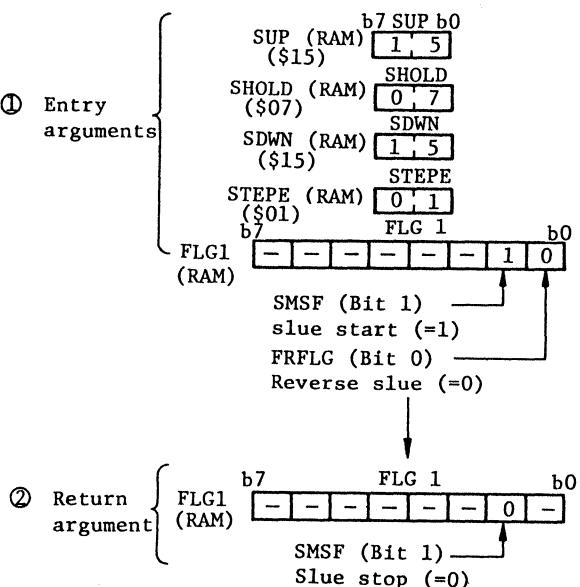

Fig. 7 Example of SMREV Execution
(b) Fig. 7 shows an example of program module SMREV execution.
If the entry argument is held as shown in part ① of Fig. 7, outputs pulse to the stepping motor. Then, the slue start flag SMSF(RAM) is contained as shown in part ② of Fig. 7.